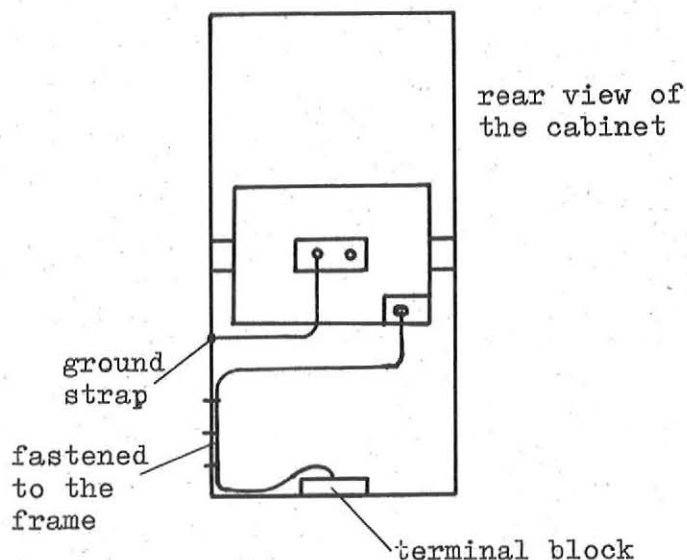

Fig 10-4
1.5 GROUND CONNECTIONS Figure 10-4